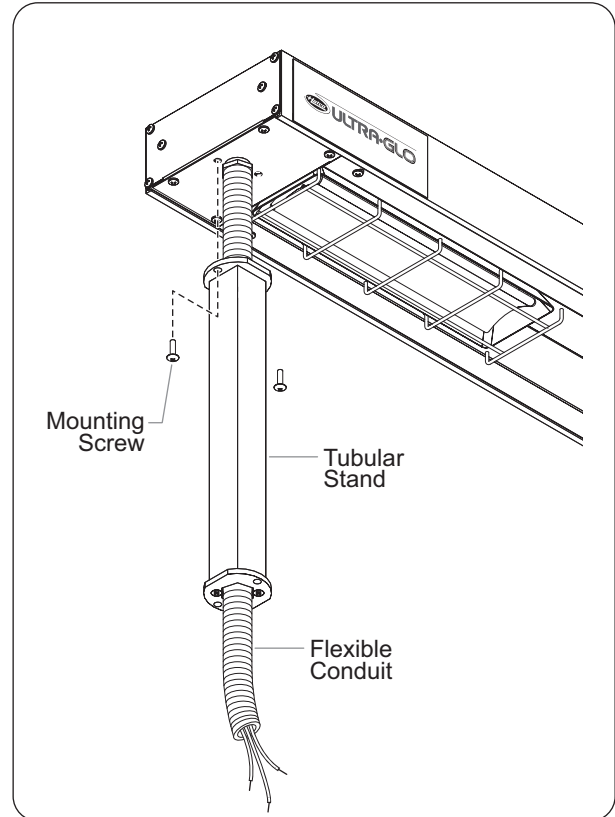

Figure 15. Tubular Stand Mounting
2. If applicable, route the flexible conduit through the center of one of the stands (see Figure 15).